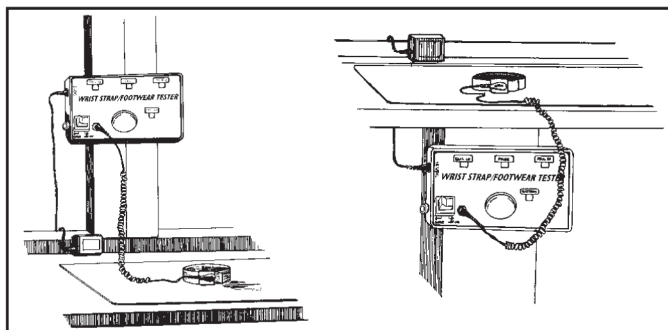

Figure 3. Stationary installation of the Combo Tester
- I. Select location for mounting Tester. Install three #6 or #8 screws spaced as illustrated in figure 3, into a wall or other vertical surface. Make sure that the screw heads do not project out more than 1/4" from mounting surface. The template on page four is actual size.